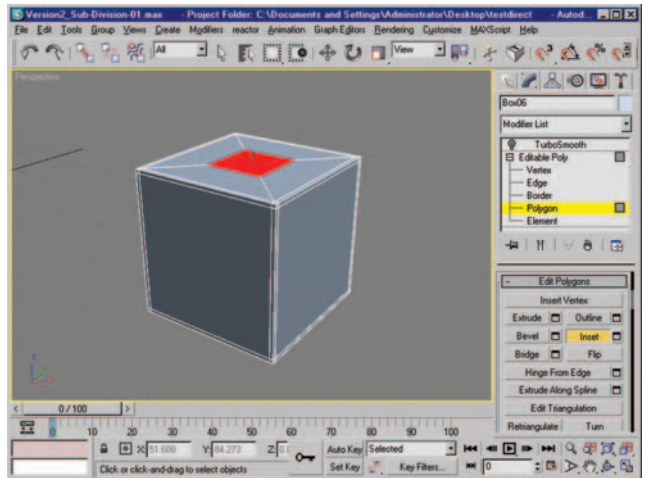

Figure 6.24 Inset polygons on the top and bottom polygons. Bottom is not visible in this view.
2. In the Polygon subobject level, select the top and bottom polygons of the box. Inset the polygons to create a result similar to the one seen in Figure 6.24.